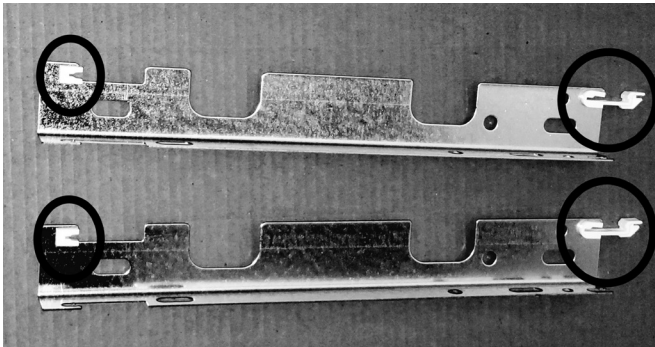
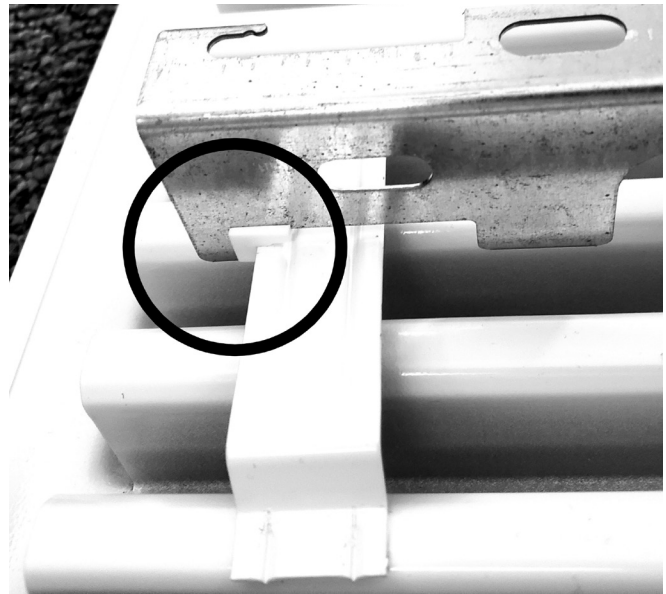

Figure 4 – Locking Clip and U clip Installed
Figure 6 – Bottom U Insert Installed
Step 2: Insert white plastic anti-vibration locking clip into notch at the top of the wall bracket until it clicks (see Figure 5). Insert the small square plastic U clip into the bottom notch of the wall bracket until it clicks (see Figure 6). See Figure 4 for proper placement of top and bottom clips.